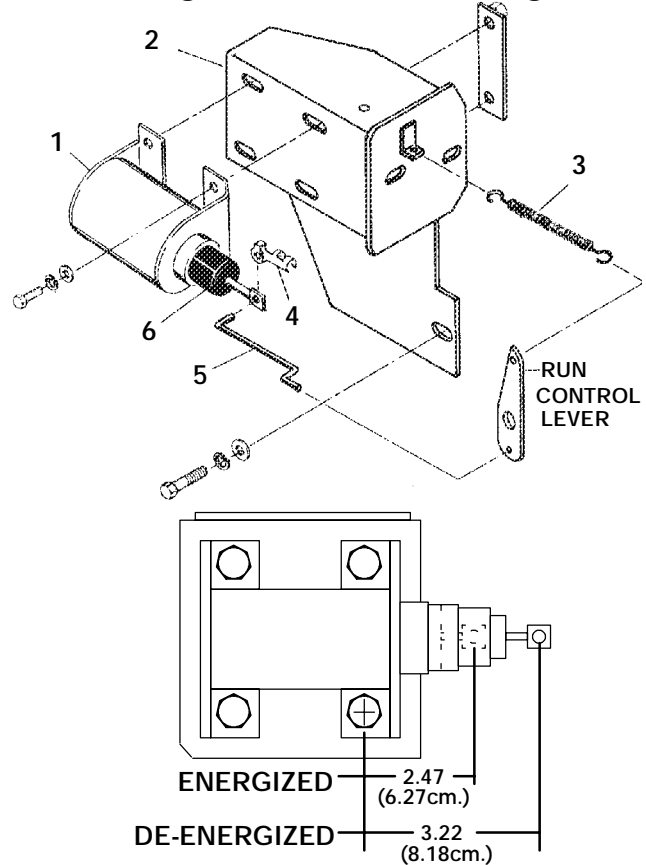

Figure 4-1. Fuel Solenoid Assembly
a. Remove spring linkage from injection pump run lever (item 3, Figure 4-1).
b. Disconnect wiring to solenoid. Remove clip (item 4) from linkage rod (item 5). Remove mounting hardware from solenoid and then remove solenoid.
c. Install new solenoid and mounting hardware, connect wiring. Place ignition (Start-Run-Off) switch in the START position to energize solenoid. Check energized dimension as shown in Figure 4-1. Turn switch OFF. Check de-energized dimension. If energized dimension needs adjusting, loosen solenoid mounting bolts and move solenoid.
e. If the engine does not shut off when the fuel solenoid is de-energized, loosen the four (4) mounting bolts and move the solenoid toward the lever until it shuts off. Tighten the mounting bolts.